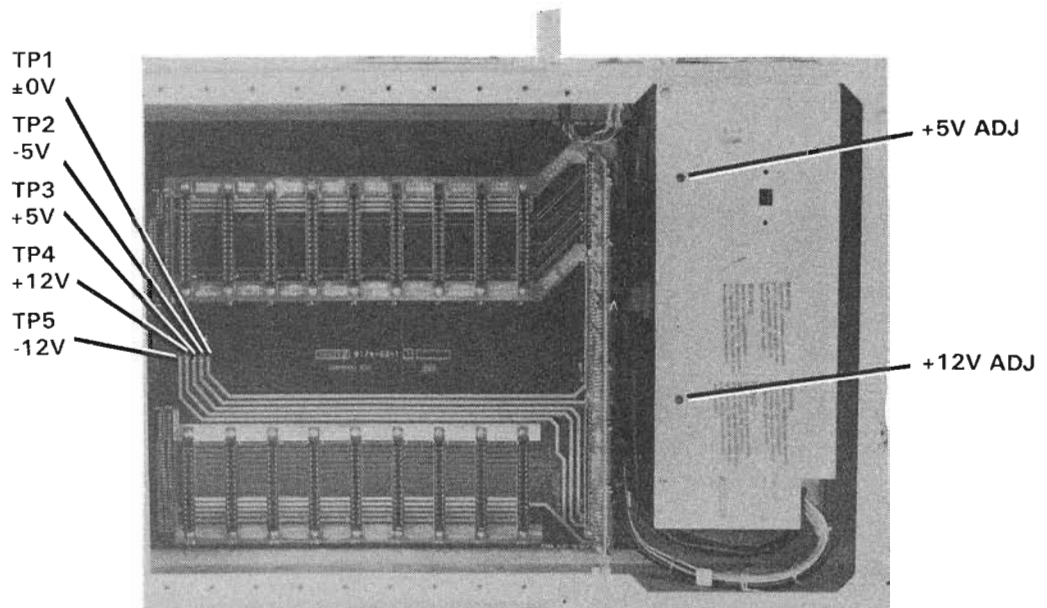

Fig. 5-1 Operating Voltage Testpoints
4. Using a Fluke Digital Voltmeter or equivalent, check -5vdc, +5vdc, +12vdc, and -12vdc at TP2 through TP5, on the motherboard. TP0 may be used as a ground reference. (Ref. Fig. 5-1). Refer to table 5-1 for the correct operating voltage levels.
5. +5vdc and +12vdc are the only adjustable voltages. Refer to Fig. 5-1 and adjust these voltages as required to achieve the correct operating voltage levels.